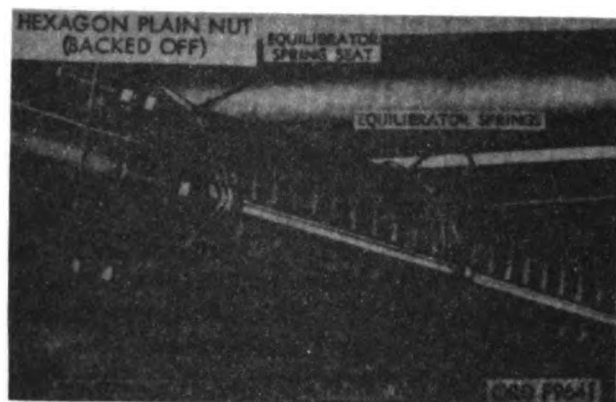

Figure 184. Adjusting equilibrator.
b. The equilibrators are adjustable by means of three adjusting nuts (fig. 184) which screw onto the threaded ends of the three equilibrator rods and against the equilibrator spring seat to compress the equilibrator springs.
- (b) Measure the distance of each adjusting nut from the end of its equilibrator rod by removing the three hexagon plain nuts (fig. 184) and counting the threads on the equilibrator rod to each adjusting nut.